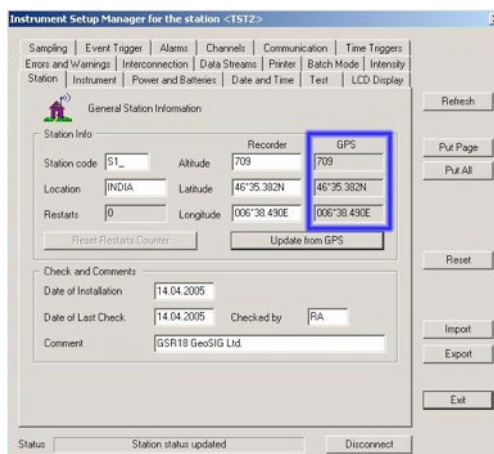

Figure 16. GPS time and position checking
- When GPS is synchronised, the date and time of the GPS can be seen in the “Date and Time” tab and the global coordinates of the GPS antenna can be seen in the “Station” tab, as shown on Figure 16.